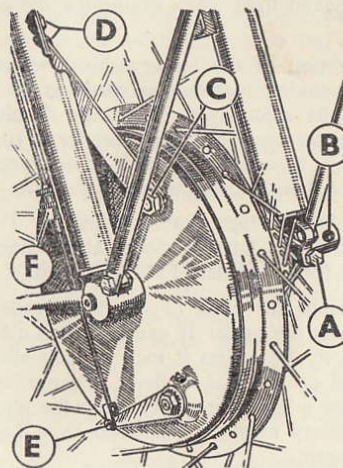

Fig. 20. Front Wheel Removal (8 in. Brake)
1. *The brake anchor strap.* Take off the nut C, Fig. 20 on the cover plate, and slacken the nuts D at the opposite ends of the strap.